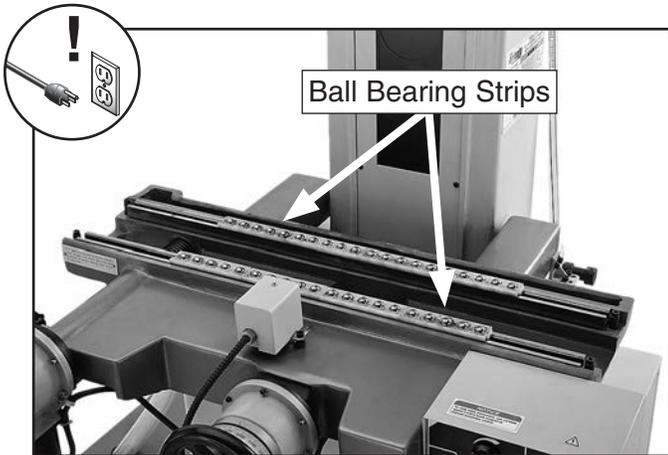

Figure 47. Table ball bearing strips exposed.
2. Remove table to expose ball bearing strips (see **Figure 47**).